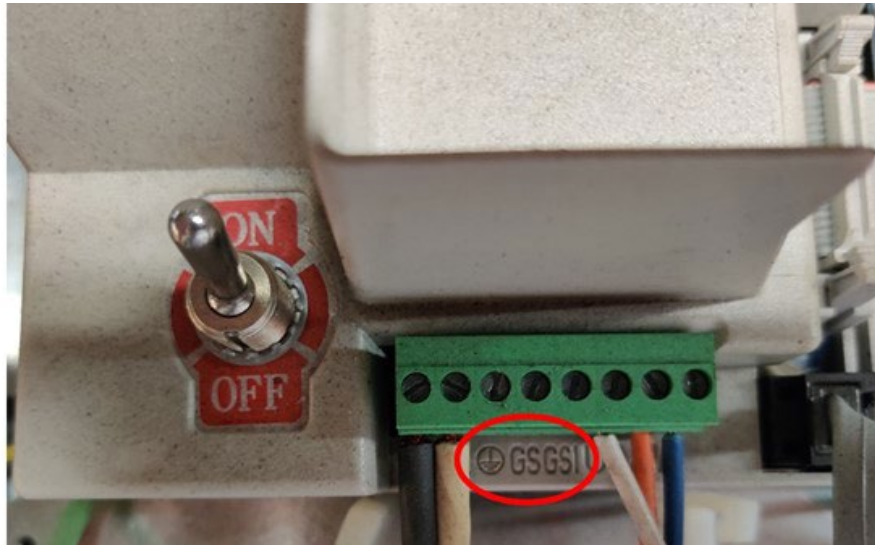

Figure 32: Gate switch Terminals
8. Wire the contact to the gate switch terminals on the operator. See **Figure 32**, Section 3.6.